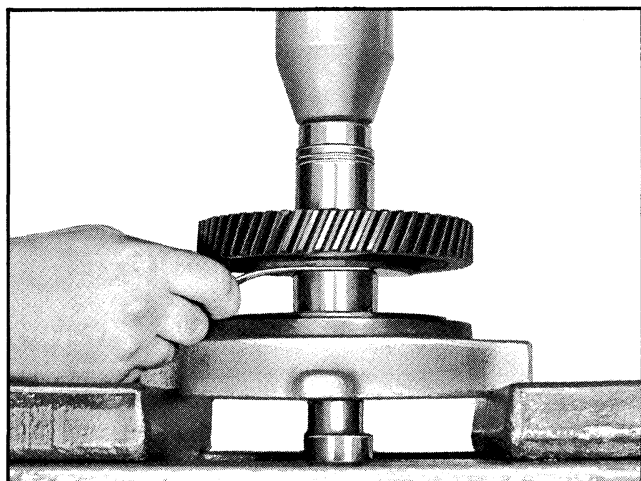

Fig. 6-48 Installing Camshaft Timing Gear and Checking Thrust Plate End Clearance
3. Install camshaft gear and press it onto the shaft until it bottoms against the gear spacer ring. Use a socket or other suitable tool. The end clearance of the thrust plate should be .001" to .005" (Fig. 6-48). If less than .001" the spacer ring should be replaced. If more than .005" the thrust plate should be replaced.